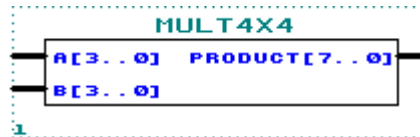

Figure 6-2.
- Remember to use the same input and output port names as shown in Figure 6-2.